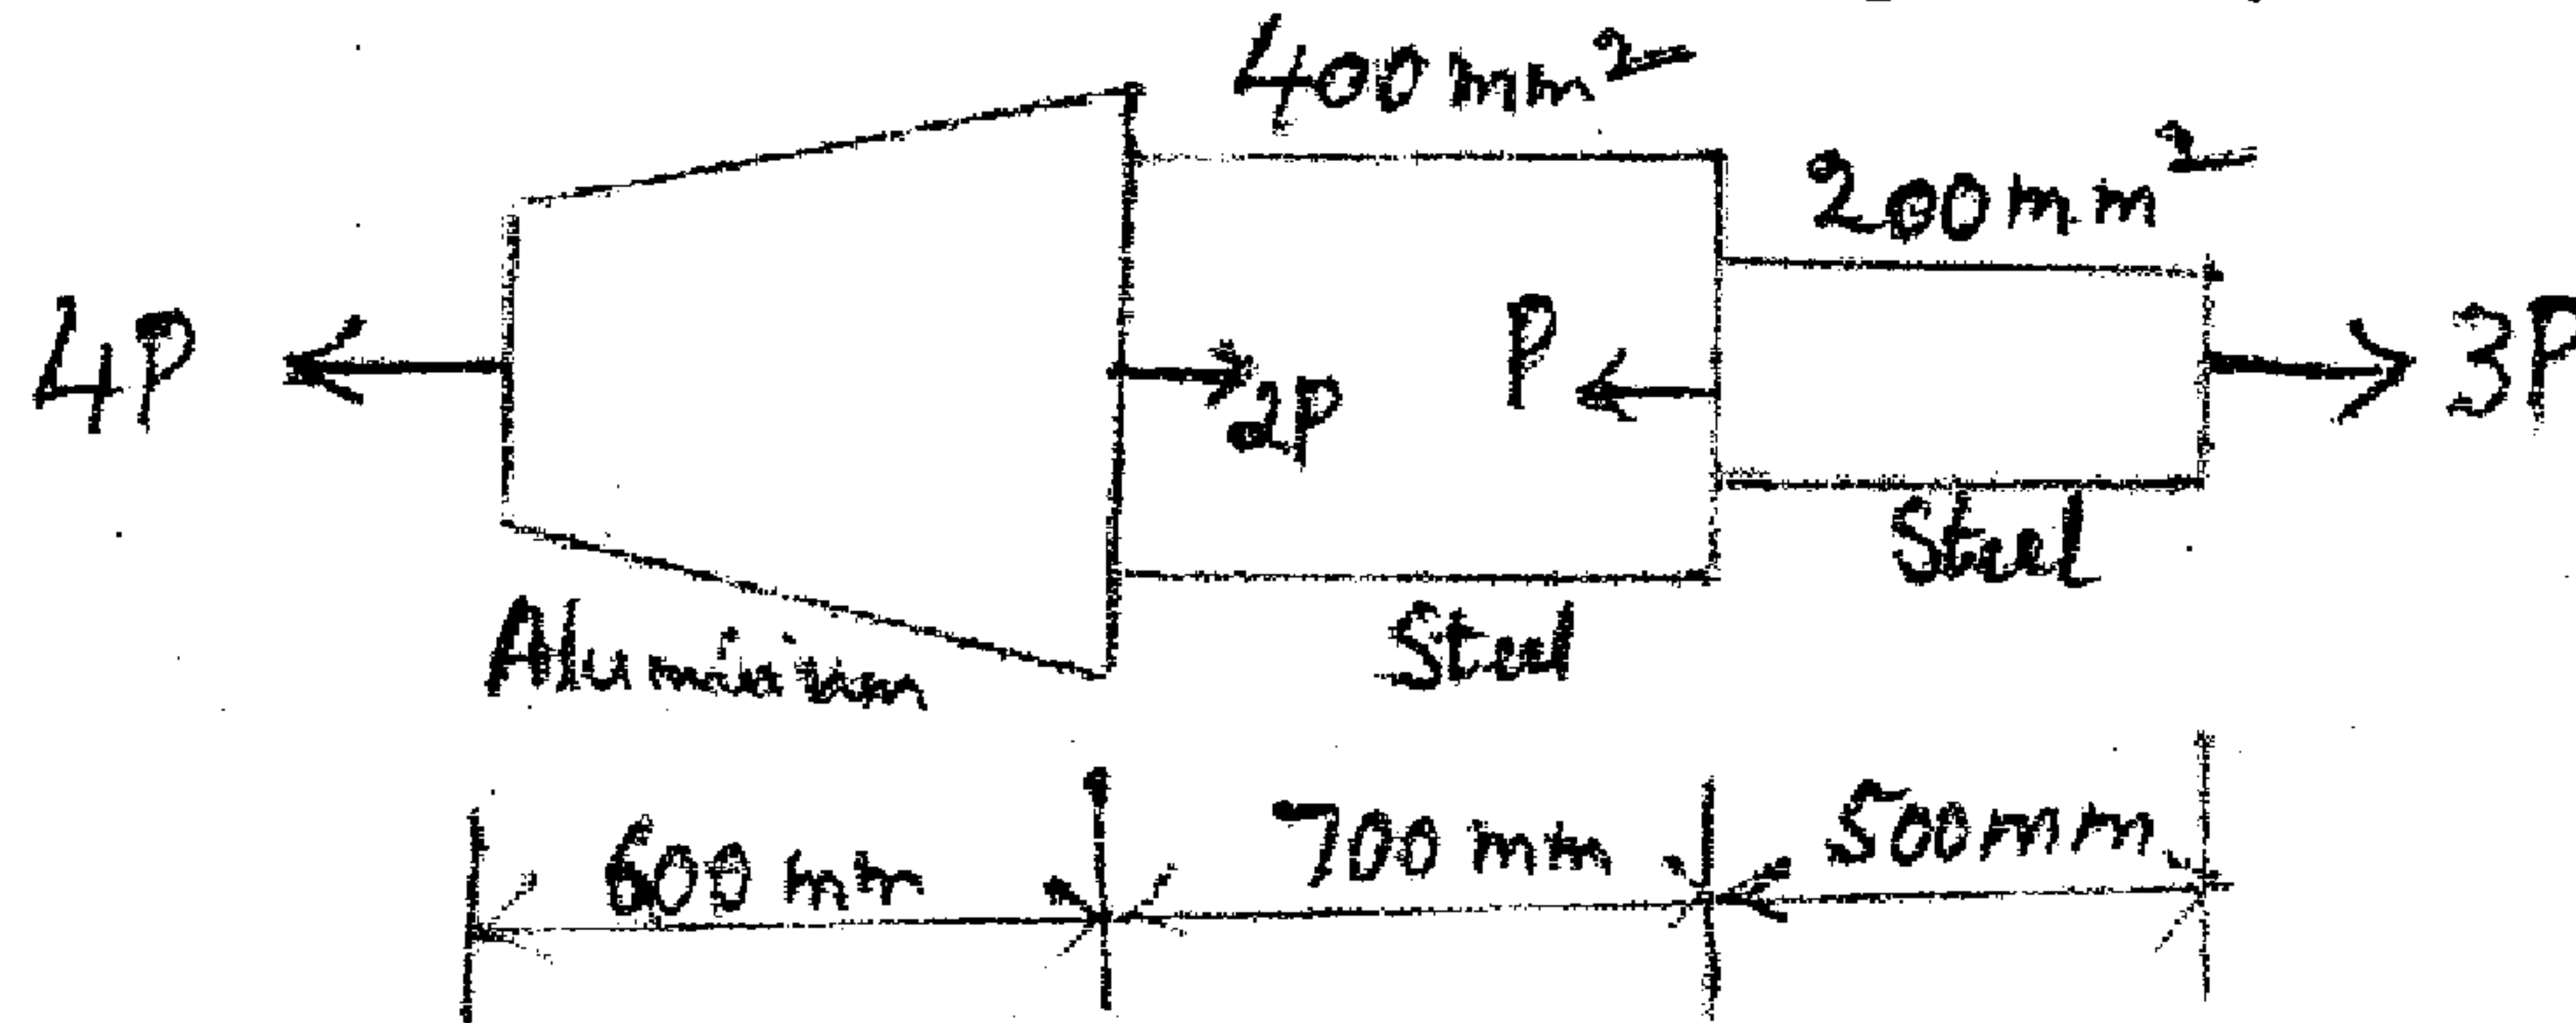

Fig.1(c)
c. A round bar with stepped portion is subjected to the forces as shown in fig.1(c). Determine magnitude of force P, such that net deformation in the bar does not exceed 1mm. E for steel is 200 GPa and that for Aluminium is 70 GPa. Big end diameter and small end diameter of the tapering bar are 40mm and 12.5mm respectively. (10 Marks)